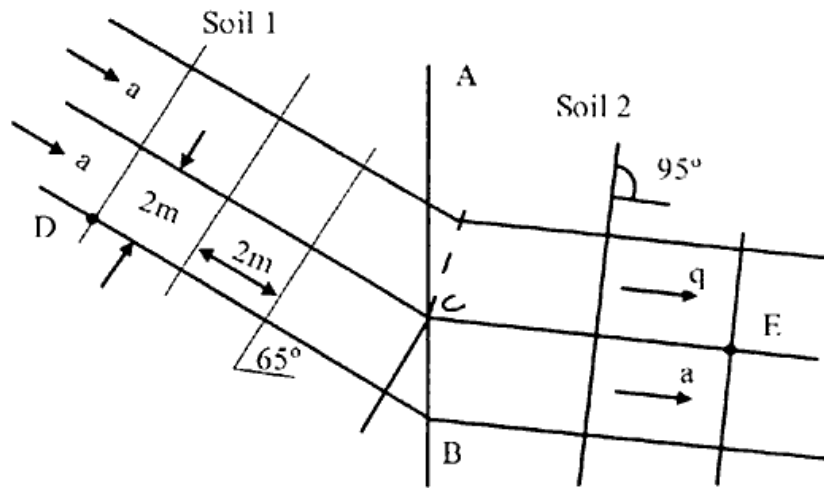

Fig. No. 6 (b)
- b) Fig. No. 6 (b) represent a portion of a flownet in the vicinity of a vertical boundary ACB separating two isotropic soil 1 and soil 2. The flownet has been drawn using square shapes with point C at the corner of a square on each side of the boundary. The scale of the whole figure maybe determined from the 2m size square in soil 1. The seepage flow (q) through each flow tube is $4 \times 10^{-7} \text{ m}^3 / \text{sec} / \text{m}$ if the permeability for soil 1 is $10^{-4} \text{ cm} / \text{sec}$.